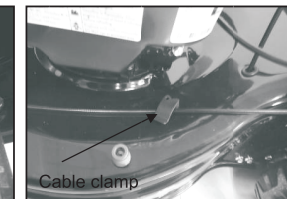

Fig.4C
2. Attach the cable-clamp on the deck to the position shown and then attach the cable. (Fig.4C)